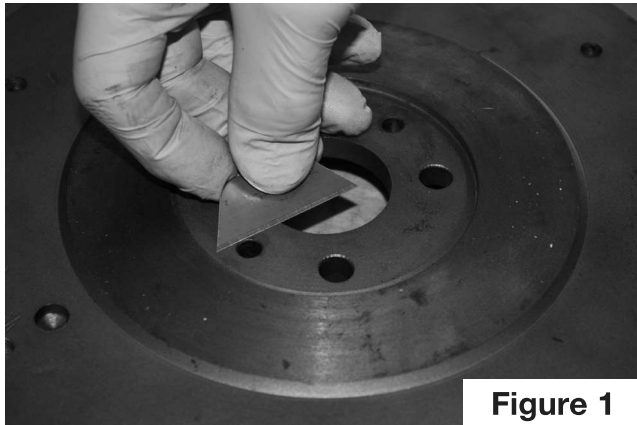

Figure 1
- 1) The surface of the flywheel which will mate with the rear surface of the crankshaft flange must be perfectly flat and smooth. There must not be any metal protruding around any of the six holes. This may be checked visually or with a razor blade, or a new blade for a utility knife. Any metal found protruding may be removed with a small grinder. (Figure 1)